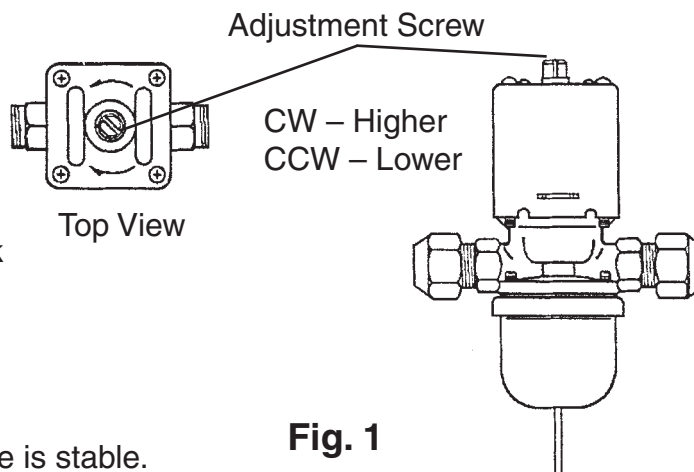

Fig. 1
- 2) Five minutes after a freeze cycle starts, confirm that the thermometer reads 104°F to 115°F (40°C to 46°C). If it does not, rotate the adjustment screw by using a flat blade screwdriver until the temperature is in the proper range. See Fig. 1. Next, check that the reference pressure is in the range indicated in the Head Pressure table in the Performance Data section. If it is not in the proper range, verify the refrigerant charge.